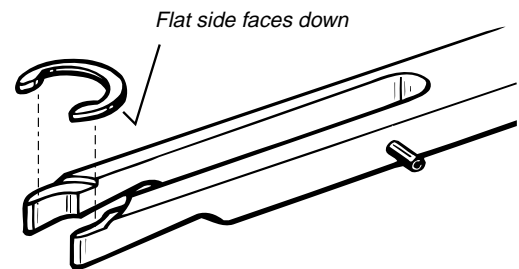

Fig. 8 – Loading Circlip Tool
3. Press the circlip(6) into the recessed ledge in the forks of the Circlip/ Retaining Ring Tool (P/N 1078-46), with its flat side facing down and the open end facing out of the tool (see Fig. 8). The spring tension of the tool will hold the circlip in place while it is being positioned inside the box bottom.